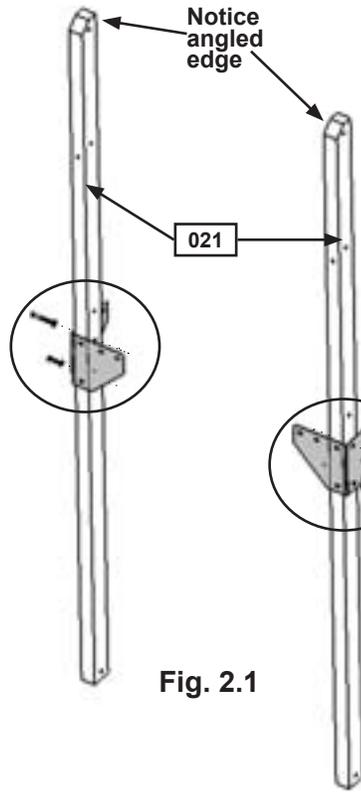
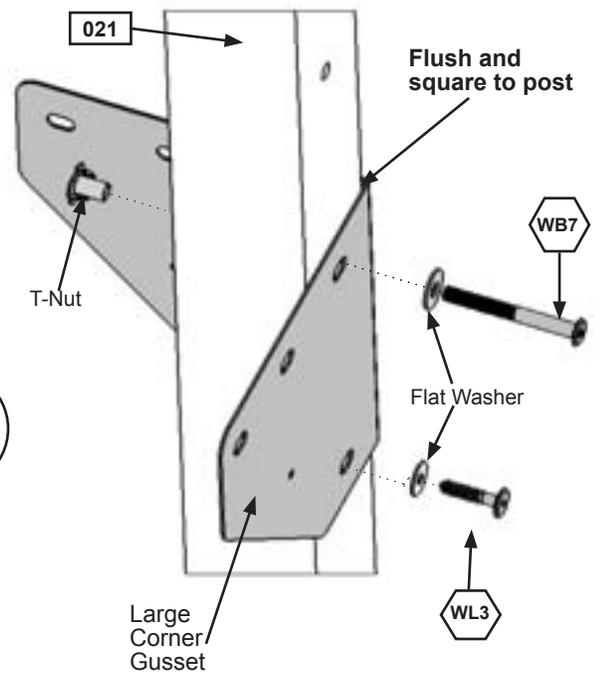

Fig. 2.1
Fig. 2.2
A: Attach 1 Large Corner Gusset to each of the (021) Post Long on the side indicated in fig. 2.1 using 1 (WB7) 5/16 x 3" Wafer Bolt (with flat washer and t-nut) in the top hole and 1 (WL3) 1/4 x 1-3/8" Wafer Lag (with flat washer) in the bottom hole. Make sure Large Corner Gusset is tight and square to the Posts. (fig. 2.2)
**Note: The top angles of the Posts face away from the Large Corner Gusset side that has not been attached. (fig. 2.1)**